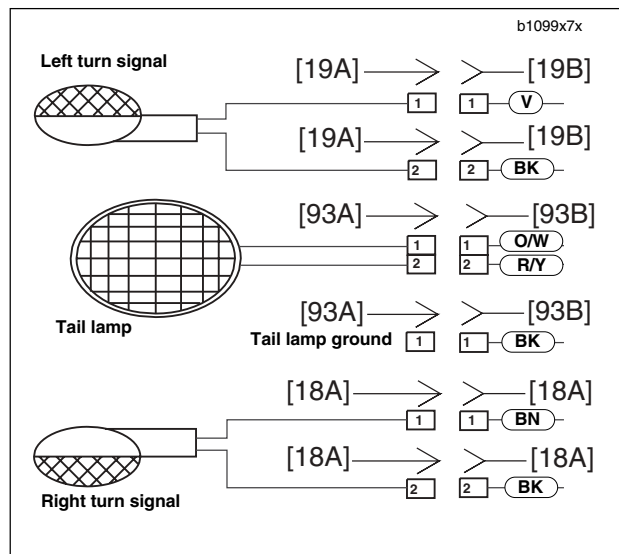

Figure 7-50. Rear Turn Signal Connections
2. See Figure 7-50. Disconnect bullet connectors [18] & [19] on turn signal wires.